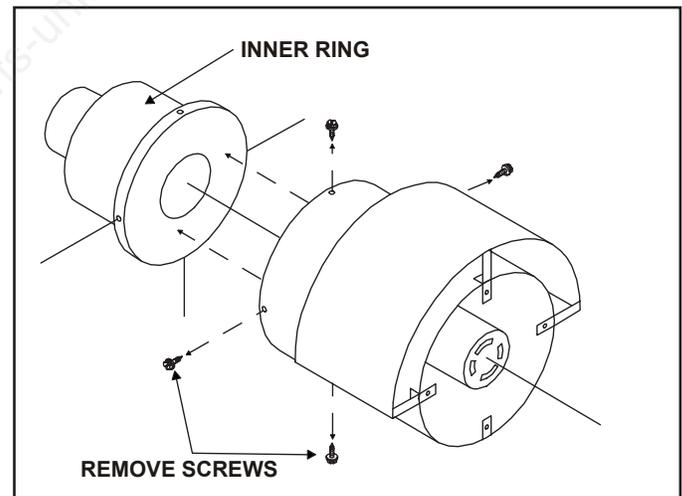

Figure 4.43
- E. Remove the sheet metal screws from the 10-1/2 in. diameter pipe and remove the inner ring from inside the collar. See Figure 4.43.